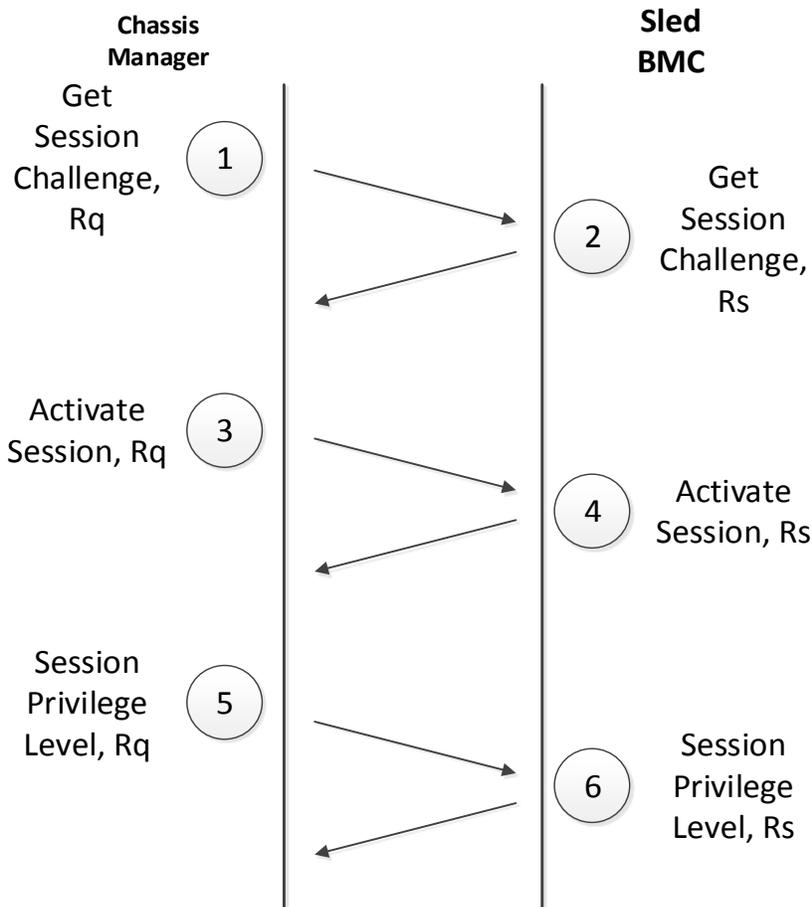

Figure 12. Session establishment process
**Privilege Level.** These commands can be thought of as always being unauthenticated. Note that **Activate Session** is the first, and in some cases only, authenticated command for a session. Figure 12 shows the process.